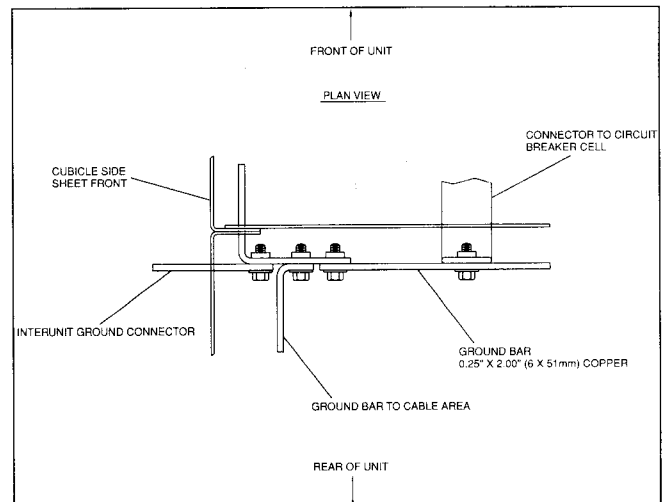

Figure 28. Ground Bus Connection
10. Connect ground bus. See **Figure 28**. Insert bar in side wall opening to overlap the ground bus in adjacent cubicles.
The ground bus extending through the switchgear is accessible in the primary cable area of each unit. The interunit connector has provisions for two bolts at each end. For ease of assembly, install bottom bolts first. Insure that ground bar to circuit breaker cell is also bolted to interunit bar, as shown in **Figure 28**.